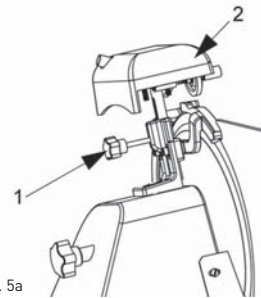

Fig. 5a
- unscrew the knob (1, Fig.5a), lift (a) the sharpener (2, Fig.5a) up to the locking position and rotate it 180°.